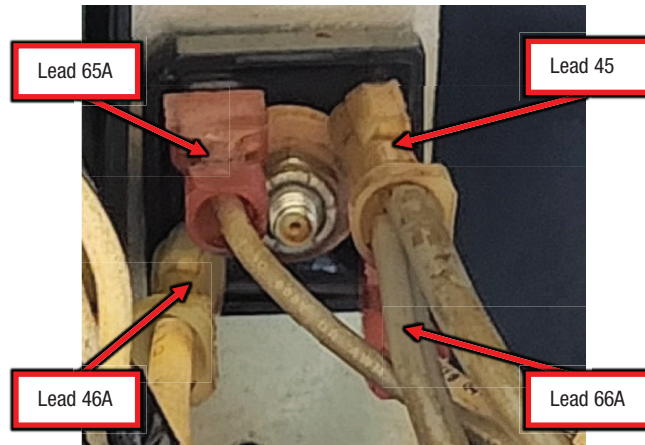

Figure F.4
- B.2. Perform the measurements in Test Table 2 below, refer to Figure F.4 for test point locations.